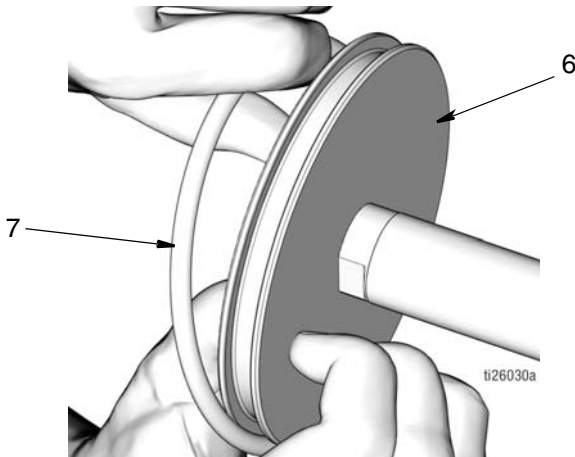

FIG. 52
- e. Apply a thin layer of grease to o-ring (7). Install o-ring (7) around piston (6) as shown in FIG. 52.